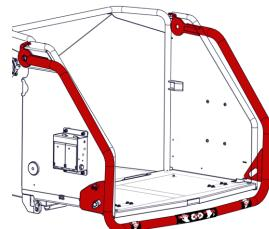

Figure 17 - Red Safety Bar
5. Press the Red Safety Bar (Figure 17).